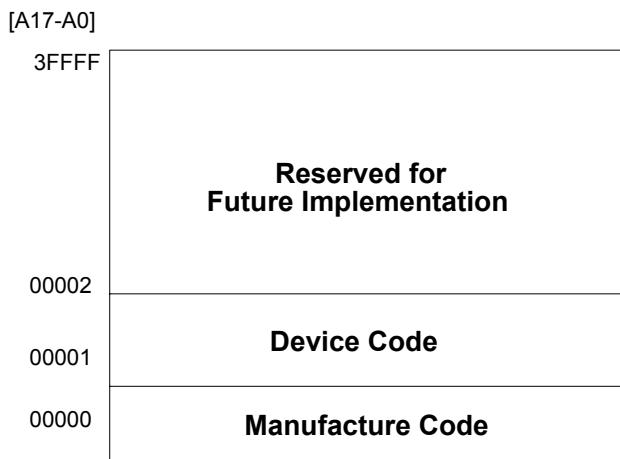

Figure 4. Device Identifier Code Memory Map
The read identifier codes operation outputs the manufacturer code and device code (refer to Figure 4). Using the manufacturer and device codes, the system CPU can automatically match the device with its proper algorithms.
- IA = Identifier Code Address: see Figure 4. A-1 set to V_{IL} or V_{IH} in Byte Mode (#BYTE = V_{IL}).
The identifier code operation is initiated by writing the Read Identifier Codes command. Following the command write, read cycles from addresses shown in Figure 4 retrieve the manufacturer and device codes (see Table 5 for identifier code values). To terminate the operation, write another valid command. Like the Read Array command, the Read Identifier Codes command functions independently of the V_{PP} voltage and #RESET can be V_{IH} or V_{HH} . Following the Read Identifier Codes command, the following information can be read: